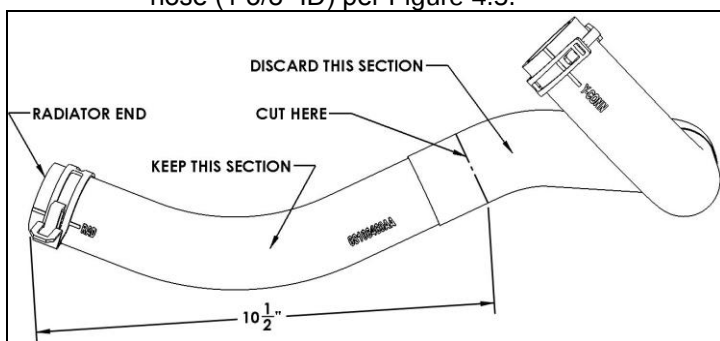

Figure 4.5
- Remove abrasion sleeve and cut secondary radiator hose (1 3/8" ID) per Figure 4.5.